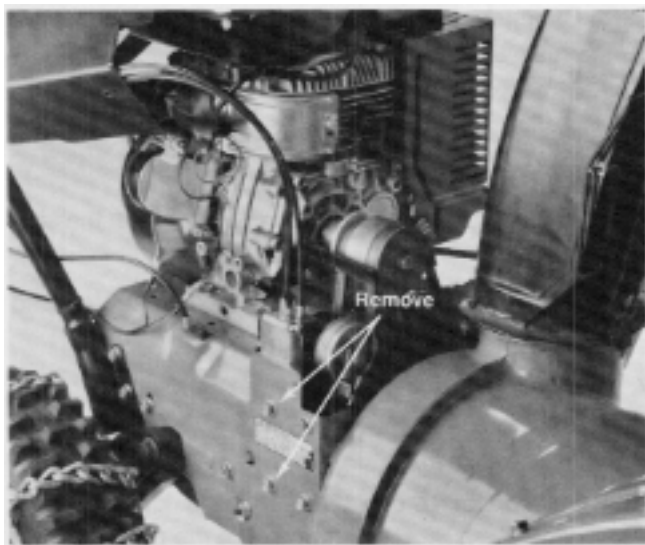

Figure 62
2. Remove the two hex head cap screws securing the idler assembly to the snowthrower frame. See Figure 62.